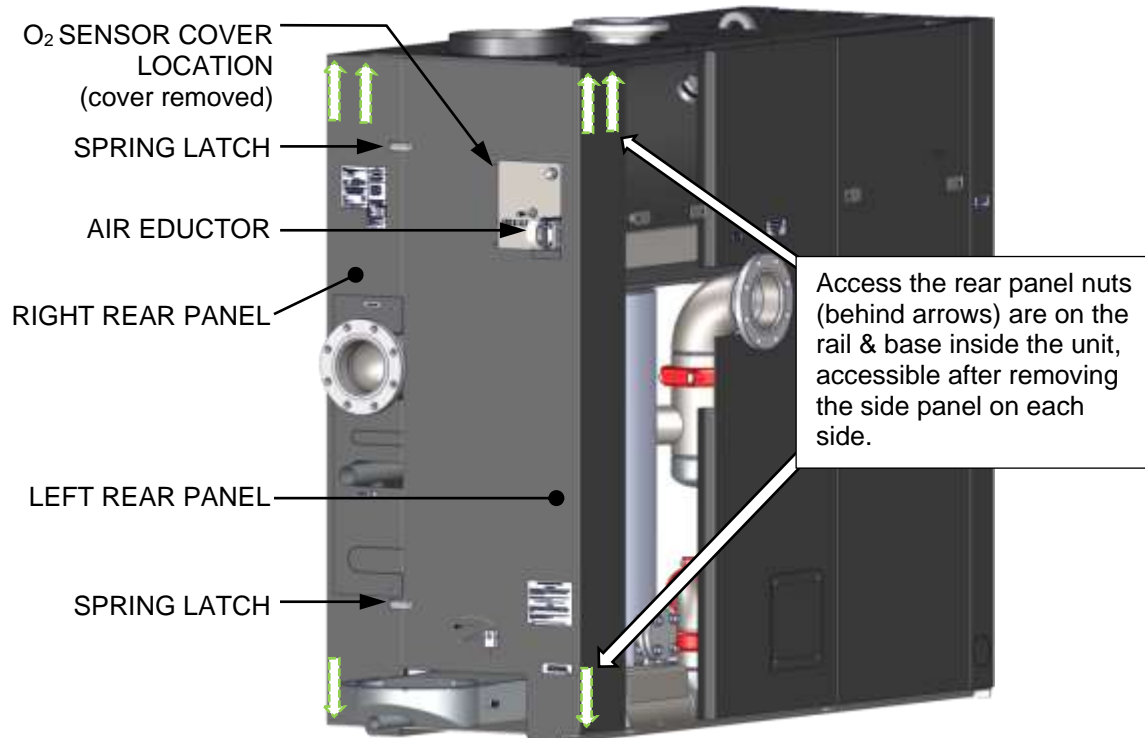

Figure 4-7: Rear View Showing Rear Panel Nut & Latch Locations
At the top, the left and right-rear panels are attached to the left and right top rails by nuts. At the bottom, each rear panel is attached to the base with one nut each. Access the nuts for removal through the side panel, as shown in Figure 4-7.
4. Remove the left-rear panel, which is held in place by 2 spring latches and 7/16" bolts, inside the panel on the top rail and bottom lip. See Figure 4-7, below.